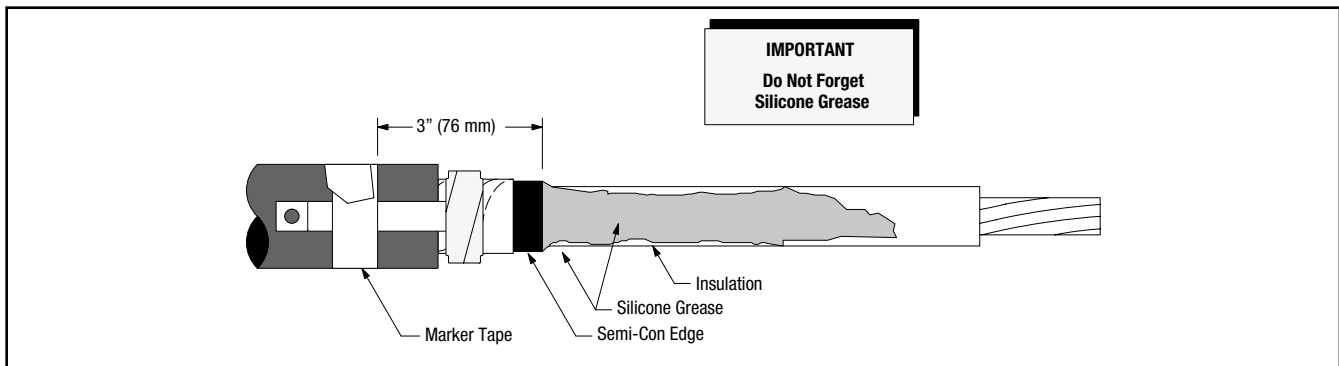

Figure 4
4.1 Place a marker tape 3" (76 mm) back from the semi-con step using vinyl tape (*Figure 4*).
4.2 Apply a liberal coating of silicone grease over the edge of the semi-con step (*Figure 4*).